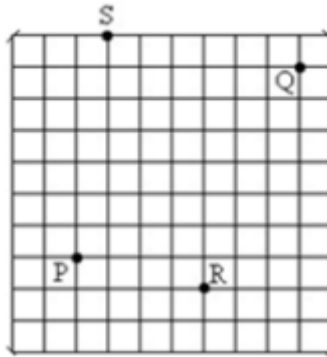

Figure 11.2: Place the spot at locations P, Q, R, and S
1. Your last action was to reduce the INTEN of the dot until it disappeared, and the position of the TIME/DIV (29) knob is on the far left, X-Y. Now make the dot appear again on the screen by turning the INTEN knob CW. Be careful not to make it too bright. Focus it as best as possible.
2. Turn (adjust) knob (19) and (32) so that the dot is in the center of the screen.
3. Place the dot at positions P, Q, R, S as in Figure 11.2.